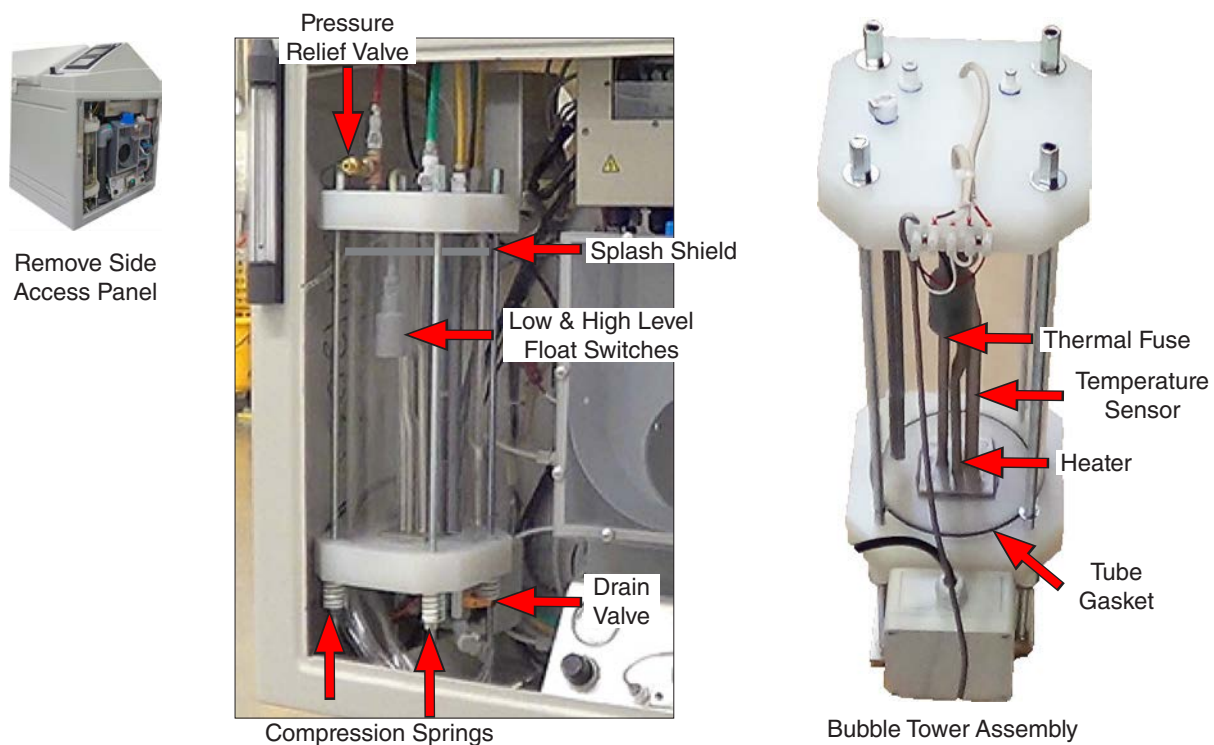

Figure 8.2a: Bubble tower installed.
- The bubble tower is accessed by removing the right side access panel (Figure 8.2a).
- The bubble tower incorporates the following safety features (Figure 8.2a):